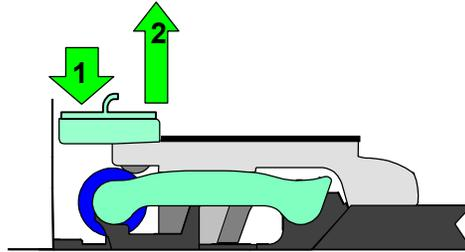

Figure 4-3: Open the swing arm
- 3 Press down on the swing arm until it clicks (step 1 in Figure 4-3). The push latch releases the swing arm. Lift the swing arm by firmly grasping the handle and pulling up until it is fully open (step 2 in Figure 4-3).